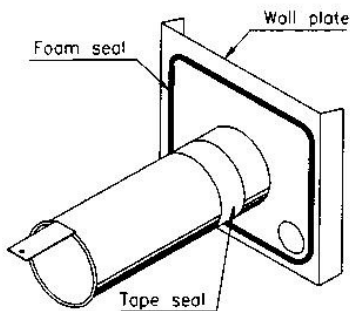

Fig. 7
10. Insert the plain end of the connecting duct in the wall plate spigot with the gather fixing strap uppermost. Seal the joint with the tape provided (Fig. 7).